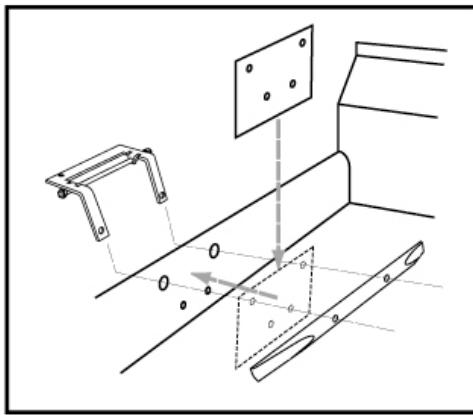

Figure 2.2.7a
2. Remove the activator bar (Figure 2.2.7a).